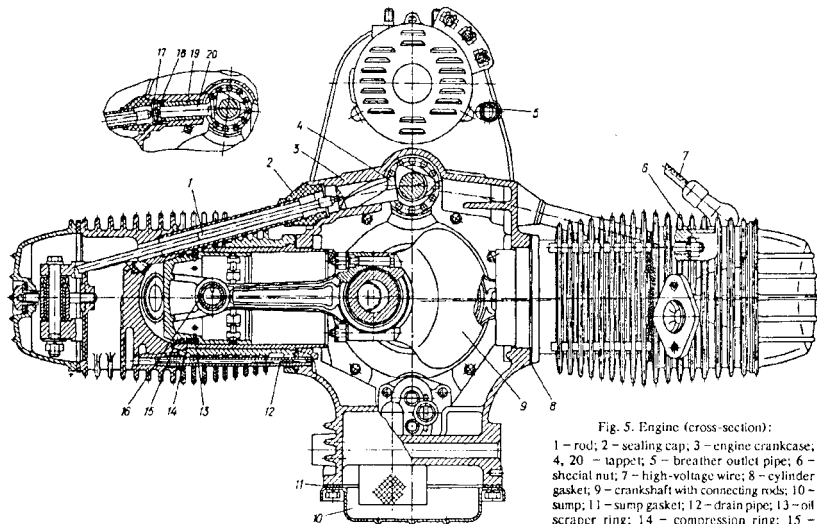
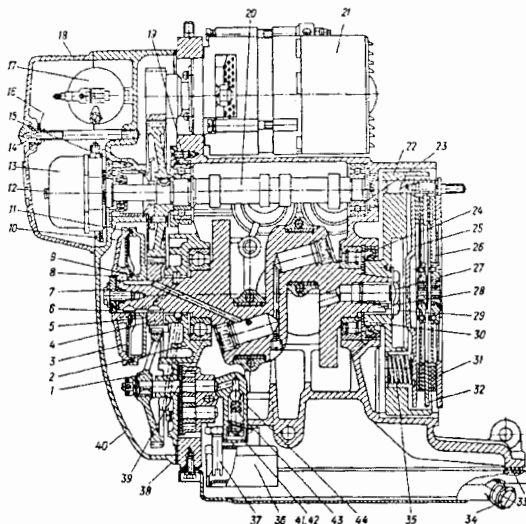
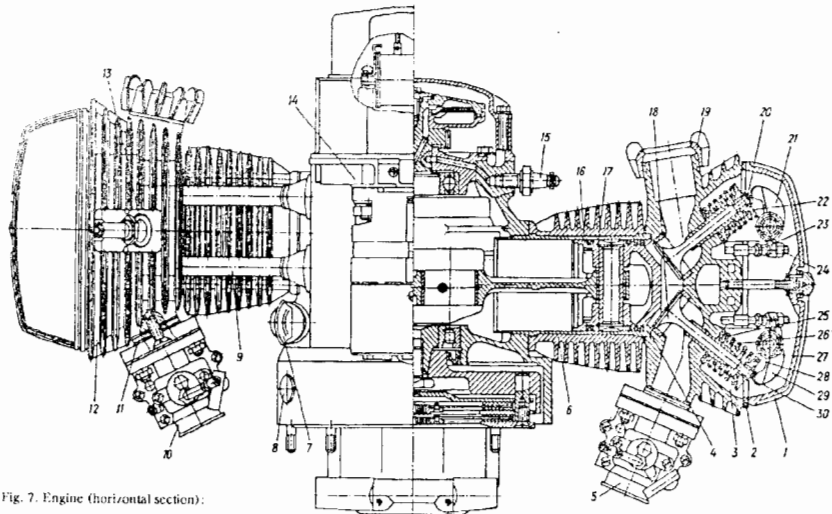
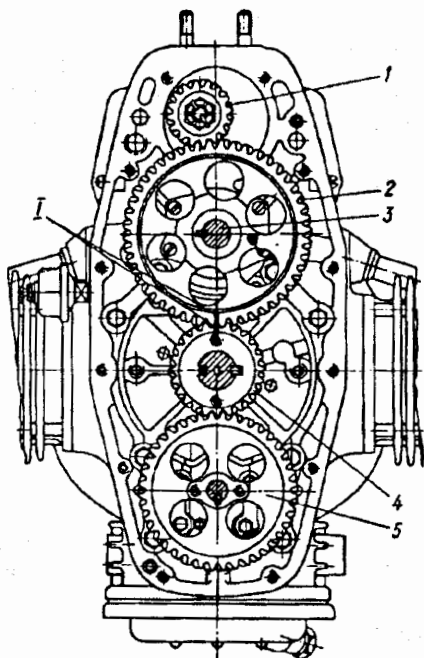

Fig. 5. Engine (cross-section):
Fig. 6. Engine (longitudinal section):
Fig. 7. Engine (horizontal section):
Fig. 8. Engine gears:
As regards its design features and technical characteristics, the engine (Figs 5, 6, 7) is classified as a road-type hopped-up motorcycle engine.
The crankshaft is installed in the engine crankcase on two bearing 30 (Fig. 6) and 39. Fitted on the crankshaft front end is driving timing gear 4 and centrifuge, flywheel 22 is mounted on the tapered portion of the rear end.
Piston, piston rings and piston pins. Engine piston 15 (Fig. 5) consists of a crown, skirt and bosses. The piston has four grooves in which piston rings are fitted. Two upper rings 14 (compression) provide the required air-tightness in the cylinder and prevent the gases from breaking through from the combustion chamber into the crankcase.
Piston 16 (Fig. 7) is linked with the connecting rod by means of a floating pin whose axial displacement is limited by two spring lock rings 17 inserted into the annular recesses of piston bosses.
Crankcase. Crankcase 3 (Fig. 5) which is cast from aluminium alloy is the main base member of the engine.
During engine operation, some portion of the air-fuel mixture and exhaust gases force their way into the crankcase through piston ring clearances. Besides, as the pistons move to the lower dead centre, the gases in the crankcase space are compressed and under their pressure the oil may leak out from the crankcase-to-cover joints and through the glands. To prevent this, forced ventilation of the crankcase is used. To open the crankcase inner space to atmosphere as the pistons move down and seal it off from atmosphere as the pistons move upward, breather 15 (Fig. 6) is provided, which is located in the central hole of cover 40 of the timing gear box.
Cylinders. the engine has identical interchangeable bimetallic cylinders 6 (Fig. 7). The cylinder is essentially an aluminium jacket with a cast iron sleeve. The lower portion of the cylinder is provided with a flange having holes passing through all the fins, for anchor studs fastening the cylinders and their heads to the crankcase. The cylinder upper portion has an annular collar entering the recess in the head.
The valve timing gear controls the opening and closing of the outlet and inlet valves at the appropriate instants corresponding to a definite crankshaft rotation angle. The valve timing gear consists of camshaft 3 (Fig. 8), tappets 4 (Fig. 5), rods 1, rockers 21 (Fig. 7) and 29, adjusting bolts 23, lock nuts 24, outlet (22) and inlet (18) valves with caps 20, springs 26, 27, bearing disks 25, 28 and blocks 30. Mounted at the front part of the camshaft is driven gear 2 (Fig. 8) with which driving timing gear 4 and generator drive gear 1 move into mesh. The camshaft is installed in the engine crankcase on two ball bearings 19 (Fig. 6) and 23. The correct valve timing is ensured by matching the marks on timing gears 2 (Fig. 8) and 4 during assembly.
The engine may be fitted with tappets of another design (see ref. Nos 17, 18, 19 and 20, (Fig. 5) whose working end is faced with a special alloy.
If the clearance is set improperly, slacken lock nut 24 (Fig. 7) and, rotating adjusting bolt 23 in one direction or the other, set the required clearance. Following that, tighten up the lock nut. The clearance is to be adjusted on a cold engine and must be equal to 0.07 mm. If there is no clearance or the clearance is too small, the valve will not fit closely to its seat at the instant of closure; if the clearance is too large, the beginning of valve opening will lag behind and filling the cylinder with air-fuel mixture will be impaired. To adjust the clearance in the other cylinder, turn the crankshaft by one revolution (by 360°), following which check and adjust the valves as directed above.
After getting into tappet slots O, the atomized oil enters the rod casings, settles in them and flows down into the cylinder heads. Here the oil is splashed by the valves and springs and lubricates the valves and rockers. Excess oil flows down drain pipe 6 back into the crankcase. If the mushroom tappets 20 (Fig. 5) are installed on the engine, the atomized oil gets into the rod casings through the hole in the crankcase near the tappet guide bushings.